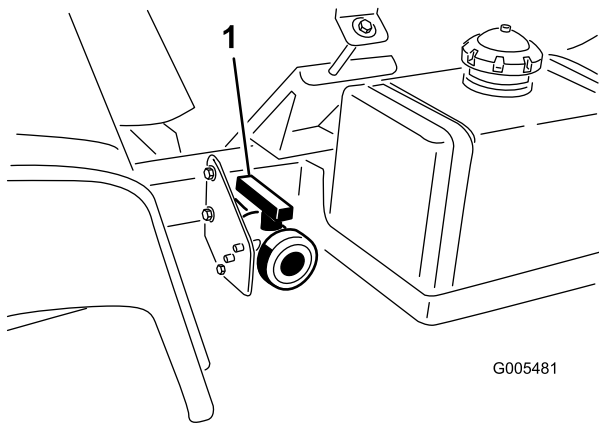

Figure 27
2. Locate the tank drain valve on the left side of the machine (Figure 27). The valve is on the frame in front of the fuel tank.